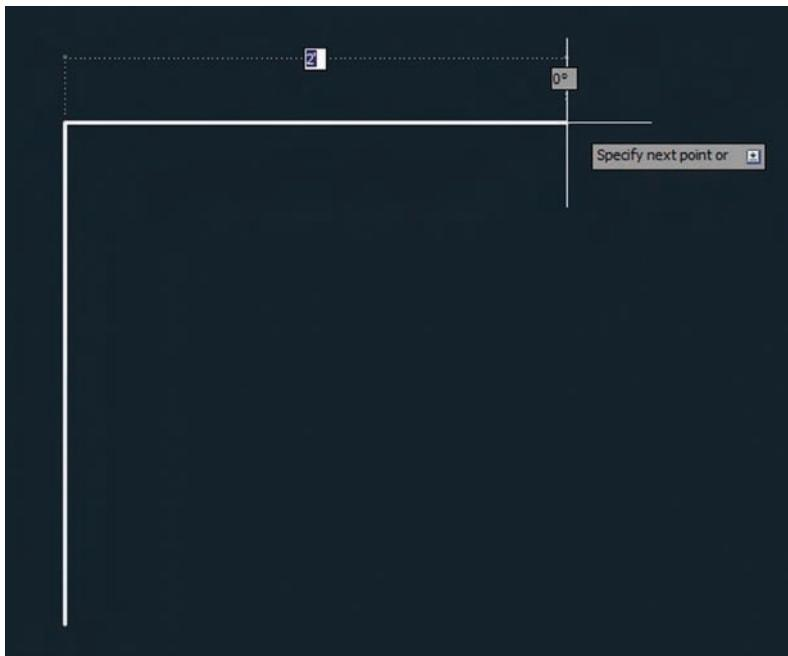

FIGURE 3.4 Using Snap to gauge distances without typing specific measurements
8. Type **L** and press Enter twice to continue drawing from the last point. Toggle Grid off in the status bar. Move the cursor horizontally to the right from the point at which the rubber band is anchored. Click the drawing canvas when the dynamic input value reads 2'-0" (or 600 mm), as shown in Figure 3.4, and press Enter.